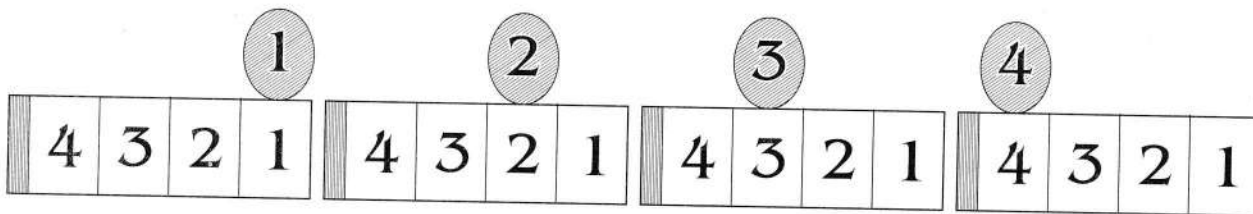

FIG. 19 Slide switch set to position '1', '2', '3' or '4'
8. Inside the Ballot Unit on the top right side, there is a slide switch, which has four positions 1, 2, 3 and 4. If only one Ballot Unit is to be used, set this switch to the position marked '1'. If two Ballot Units are to be used, set this switch to the position marked '1' in the Ballot Unit in which the names of the candidates at Sl. Nos. 1 to 16 appear, and in the second Ballot Unit set this switch to the position marked '2'. If three Ballot Units are to be used, the slide switch will be set to the position marked '1' in the first Ballot Unit in which the names of candidates at Sl. Nos. 1 to 16 appear, to the position marked '2' in the second Ballot Unit in which the names of contesting candidates at Sl. Nos. 17 to 32 appear, and to the position marked '3' in the third Ballot Unit in which the names of the contesting candidates at Sl. Nos. 33 to 48 appear. Likewise, if the 4th Ballot Unit is also to be used, if the number of contesting candidates exceeds 48, then the slide switch will be set to the position marked '4' in the last Ballot Unit (Fig. 19).